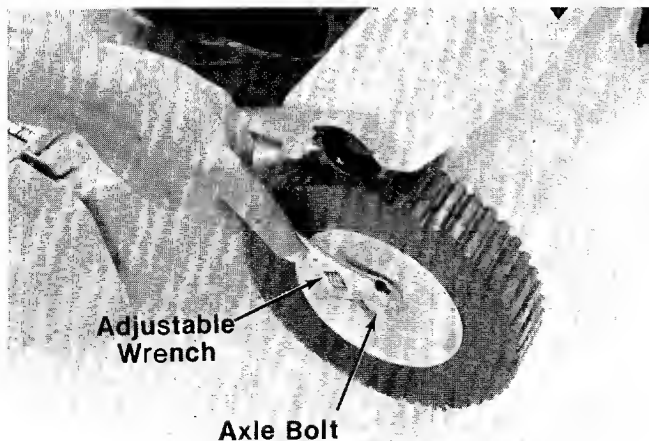

FIGURE 12.
1. Using an adjustable wrench, remove the axle bolt, wheel and belleville washer. See figures 12 and 13.